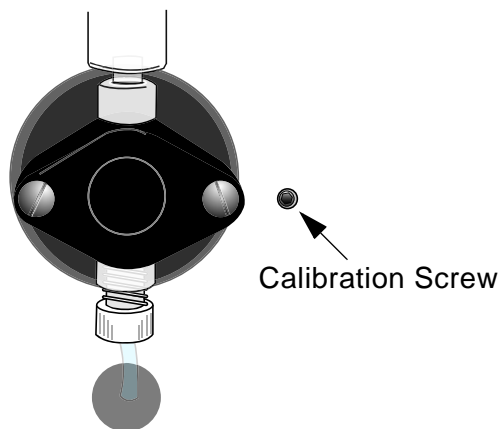

Figure 5-12. Pump Calibration Screw
6. Locate the pump's calibration screw in the hole on the right side of the pump (see Figure 5-12).